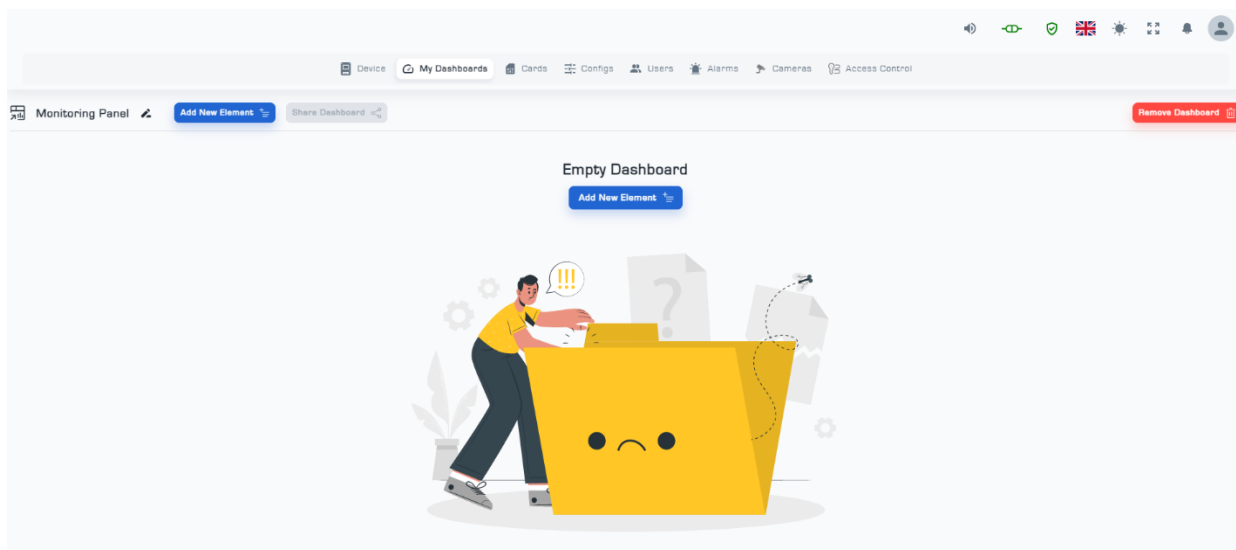

Figure 24: User created dashboard
On the created page, as shown in Figure 24, there is no data from the channels or sensors. To create a custom page for viewing data from your desired card and channel, follow the steps below:
- (1) Click on the 'Add New Element' option in Figure 24.